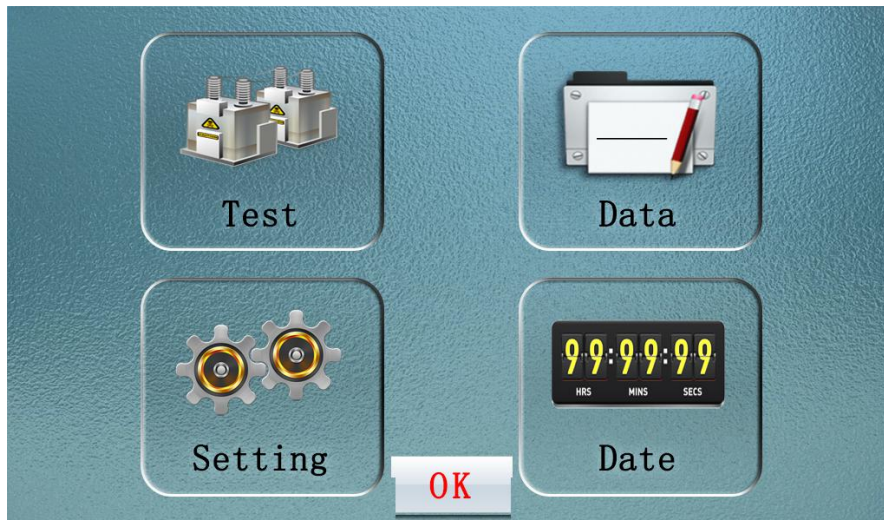

Figure 1
1、 The boot interface is shown in figure 1:
4、 Click "Data management" in figure 1 to enter the data query interface, as shown in figure 4:
5、Click "Parameter setting" in figure 1 to enter the "parameter setting" interface, as shown in figure 5:
6、Click "clock modification" in figure 1 to enter the clock modification interface, as shown in figure 6: